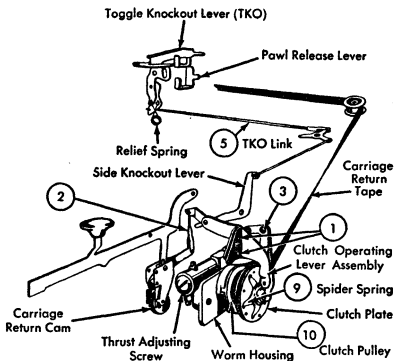

Figure 14. Carriage Return Mechanism
When the carriage return key lever trips the single lobe cam, the motion of the cam pulls down the clutch operating lever assembly (Figure 14). This action does two things:
a. It pulls down on the side knockout lever which through linkage raises the toggle knockout lever (Figure 14). The TKO lever strikes an ear on the pawl release lever and rotates it in such a manner as to release the escapement pawl from the rack and actuate the backspace interlock.
CLUTCH OPERATING LEVER ASSEMBLY. First disconnect the link that connects the carriage return cam to the clutch operating lever assembly. Remove the two screws that hold the clutch operating lever assembly to the side frame so that the complete assembly may be removed. During reassembly, make sure that the side KO lever is under the clutch operating lever before tightening the mounting screws for the clutch operating lever assembly (Figure 14).
THE CLUTCH PULLEY SPRING. Remove the clutch operating lever assembly mounting screws. Disconnect the carriage return tape from the clutch pulley and let the pulley slowly unwind. Remove the clutch pulley to obtain access to the clutch pulley spring. The removal of the spring will be made easier by using long-nose pliers. When replacing the clutch parts, make certain that the side KO lever is under the clutch operating lever before tightening mounting screws for the clutch operating lever assembly. If this precaution is not taken, the clutch will not unlock when the carriage reaches the left margin (Figure 14).
1. **BRACKET.** Check the two screws which mount the clutch operating lever assembly to the side frame to insure that they are not loose or broken. Check to see that the pivot points of the toggle are free from binds (Figure 14).
2. **CAM.** Adjust the cam to the power roll, so that the lug on the cam release lever just drops behind the lug on the cam when the cam is tripped with the power off (Figure 14).
3. **CLUTCH CLEARANCE.** By loosening the screw in the elongated slot of the clutch operating lever assembly, position the clutch lever so that there is a clearance of .010" between the clutch disc and the clutch plate (Figure 14).
tact the TKO lever at a point on its inclined surface $\frac{3}{16}$ " down from the TKO's upper surface (Figures 14, 17). If the TKO lever cannot be raised high enough, it may be necessary to form the TKO tip down temporarily (Figures 14, 17).
9. SPIDER SPRING. By turning the retainer and spring assembly, adjust the spider spring tension for the proper carriage return action. With the line space mechanism in the triple line space position, the carriage should occasionally fail to return to the margin from a spot about one inch from the margin. It should never fail on double or single line space position from any distance (Figure 14).
10. CLUTCH PULLEY SPRING. Completely wind this spring. Then back off two to four turns before the carriage return tape is attached to the clutch pulley (Figure 14).